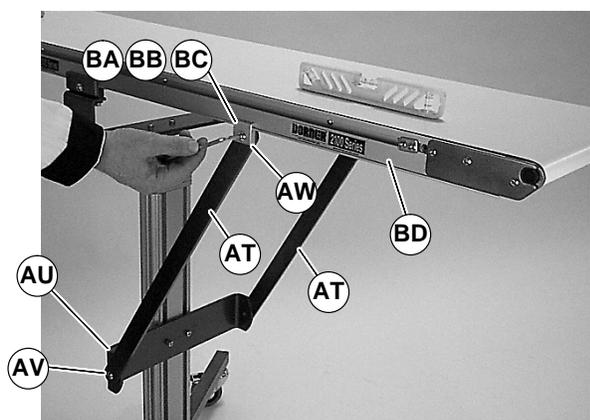
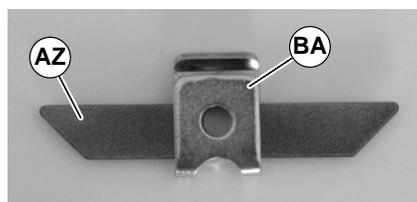

Figure 37
Figure 38
4. Attach braces (AT of Figure 37) to brace bracket (AU) with M8 screw (AV).
5C. For 6100 conveyors: Insert belt guards (AZ of Figure 38) into 6100 clips (BA). Attach braces (AT of Figure 37) to conveyor rails (BD) with 6100 clips (BA) and M8 screws (AW).
6. Tighten M8 screws (AV & AW of Figure 37) to 80 in-lb (9 Nm).